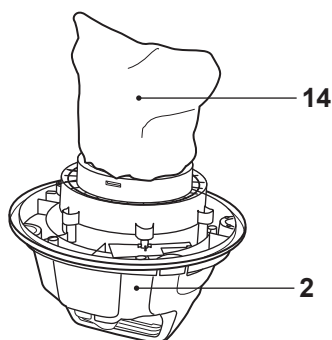

Fig. 17
Use the dust filter (14) to collect particles that are not already caught by the dust bag (15). Always assemble the dust filter (14) onto the motor unit (2) for dry vacuuming operations (Fig. 17). Operating the product without the dust filter (14) can damage the motor unit.
- > Inspect the filter (14) regularly. Replace it with a new one if necessary.
- > Wash the filter (14) frequently, with clear water and let it dry in air. Do not wait until the filter is completely dirty. We recommend inspecting the filter when the product does not reach a sufficient suction power.